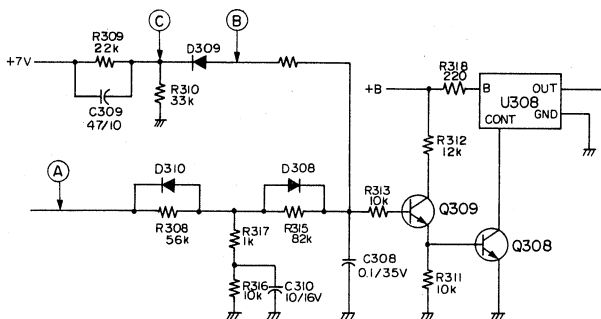

Fig. 16
Fig. 16 is the Bias Oscillator Circuit. With approx. 24 V applied to point (A), due to the ratio of R308 and R317, point (B) will have a lower potential. Then, after a short period of time, when C310 which is connected across R316 finishes charging, the potential at point (B) rises. Current flow through D308 and R313 begins and the Darlington circuit of Q309 and Q308 begins to close. Then, this smooth rise characteristic saturates and oscillation continues.